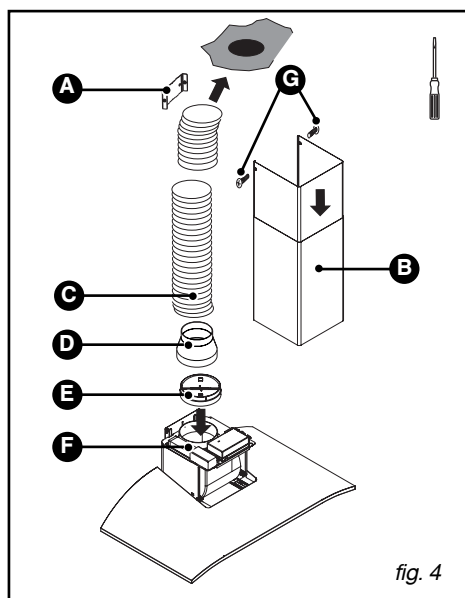

fig. 4
– Slide the end of the flue over the motor outlet (fig. 4).
– Prepare your telescoping ventilation shaft, taking care not to block the vents (fig. 4).
– Attach the upper portion of the chimney (B/fig. 4) on the metal chimney bracket (A/fig. 4) using the two screws (G/fig. 4).